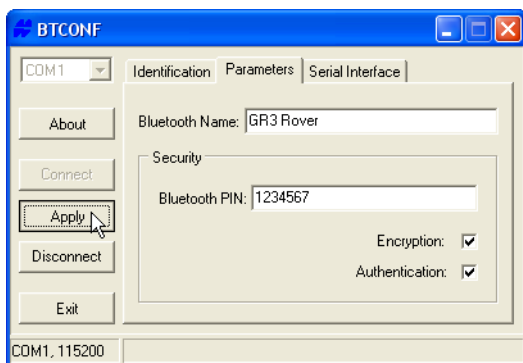

Figure 2-16. BTCONF Security Parameters
8. To set security parameters (Figure 2-16 on page 2-20), enter and enable the following, then click **Apply**: